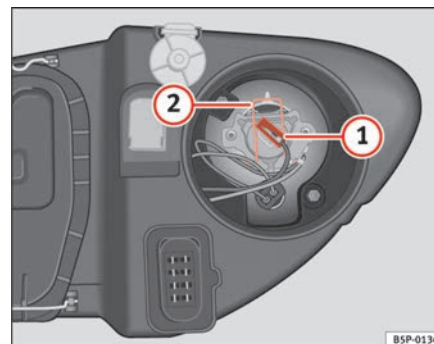

Fig. 184 Main beam headlights
- Remove the connector ⇒ fig. 184 ① from the bulb.
- Press the spring ⇒ fig. 184 ② inwards and to the right.